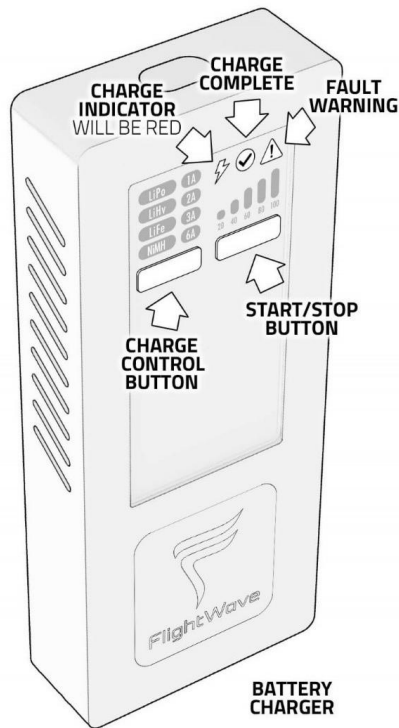

*Figure 4 – Air Vehicle Battery*
The Edge 130 sUAS operates on a single 14.8 V 6 Ah battery pack (4s2p), shown in *Figure 4*. This consists of eight (8) lithium-ion cells wired in a vertical stack of two (2) cells per row. This produces a total nominal voltage of 14.8 V (1.8 V per cell).